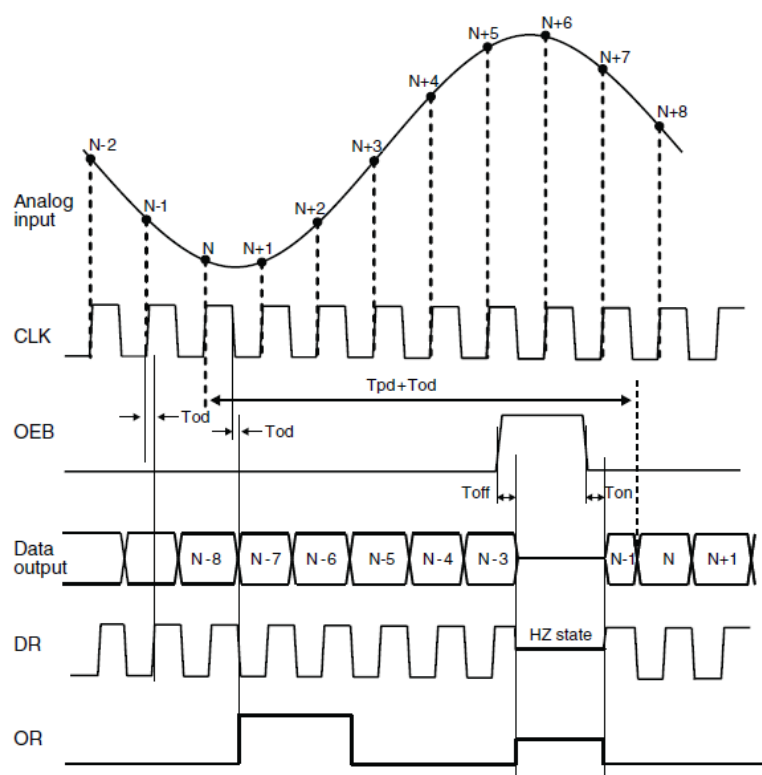

Figure 6-13. Timing diagram
Output enable bit (OEB): when set to low level (VIL), all digital outputs remain active. When set to high level (VIH), all digital output buffers are in a high impedance state while the converter goes on sampling. When OEB is set to a low level again, the data arrives on the output with a very short T_{on} delay. This feature enables the chip select of the device. Figure 6-13.
Data ready (DR): the Data Ready output is an image of the clock being synchronized on the output data (D0 to D13). This is a very helpful signal that simplifies the synchronization of the measurement equipment of the controlling DSP. Like all other digital outputs, DR goes into high impedance when OEB is set to a high level, as shown in Figure 6-13: Timing diagram.